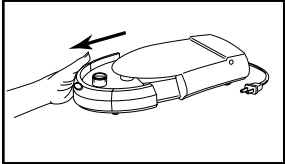

FIGURE 4 - Removal of Water Tank
3. Depress the Water Tank Lock Button and carefully pull out the Detachable Water Tank. (see Figure 4).